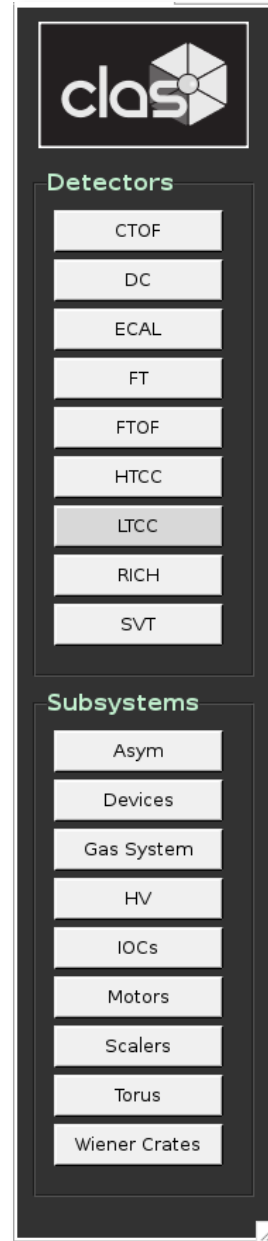
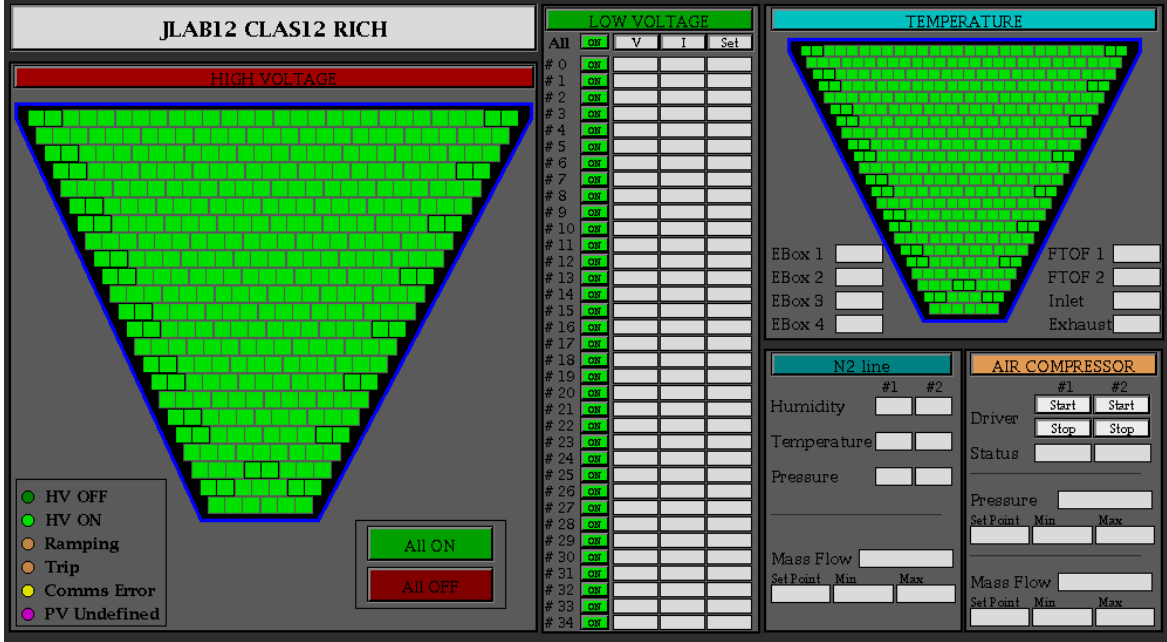

Figure 12: View of the Hall-B EPICS main window.
Figure 13: The primary EPICS screen needed for shift workers to monitor RICH.
All RICH controls will be accessible via EPICS, from the main CLAS_EPICS window (figure 12). If not already running, it can be opened by executing the command
The primary RICH screen is shown in figure 13 and opened via the **RICH** button in the right side of the main CLAS EPICS screen (figure 12).
The main RICH screen combines all basic RICH EPICS controls and monitoring into one window. It is accessible from the **RICH** button in figure 12. This includes embedded versions of the dedicated screens in the following sections: temperature sensors, air-cooling compressors, and low and high voltage.
The RICH DAQ records the temperature of each of the 138 FPGA chips every few seconds. Several temperature sensors are placed in sensitive positions of the RICH enclosure and should be monitored through RICH's main EPICS screen and the strip charts shown in figure 14. The strip charts are accessible from the button in the temperature section of Figure 13.
A clean and dry nitrogen atmosphere is required inside the RICH vessel to preserve the aerogel optical performance. The nitrogen circuit provides a clean and dry flow and should be ON at all times. As other gas systems in Hall-B, the nitrogen circuit is controlled via a cRio device and can be monitored through the EPICS controls (figure 13).
The high voltage supply of the RICH is controlled and monitored using the main RICH EPICS window (Figure 13). It has buttons to ramp up and down the entire RICH voltages (labeled **ALL ON** and **ALL OFF**), open windows for individual channel control, and open more detailed expert views.
1. Check the air compressor status display on the main RICH EPICS window (Figure 13): at least one compressor should be ON, the pressure and mass flow measured values should be within the working range and close to the set values.
1. Check the main RICH EPICS window (Figure 13) and note in the logbok any non standard condition. In the temperature status display, the sensors in the air circuit and at the TOF should all be below 40 degrees Celsius. The sensors within the RICH FEE box should be between 40 and 50 degrees Celsius. The single chip temperature should be between 50 and 60 degrees Celsius. In the air compressor status display at least one compressor should be ON, the pressure and mass flow measured values should be within the working range and close to the set values.